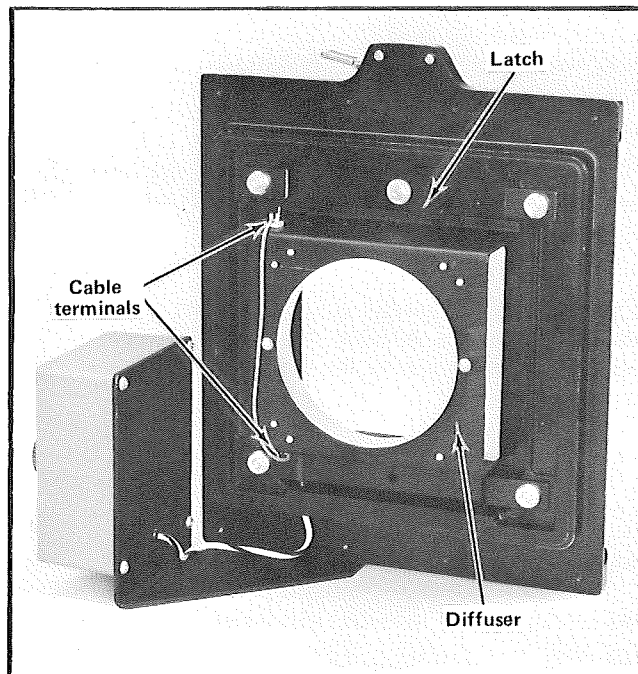

Fig. 2-12. Correctly installing the diffuser assembly on the Rotating Slide Adapter.
6. Install the diffuser into the slide adapter with the electrical terminals adjacent to the hole drilled in step 3. Lock the diffuser in place. See Fig. 2-12.
7. Reconnect the diffuser assembly power cable to the diffuser. See Fig. 2-12.